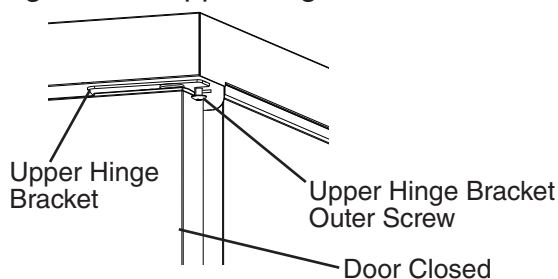
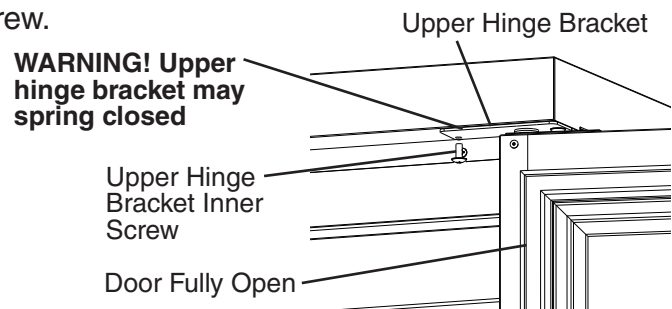

Fig. 7
Fig. 8
- 2) With the door closed, loosen, but do not remove, the upper hinge bracket outer screw. See Fig. 7. Next, open the door to the fully open position and remove the upper hinge bracket inner screw. See Fig. 8.